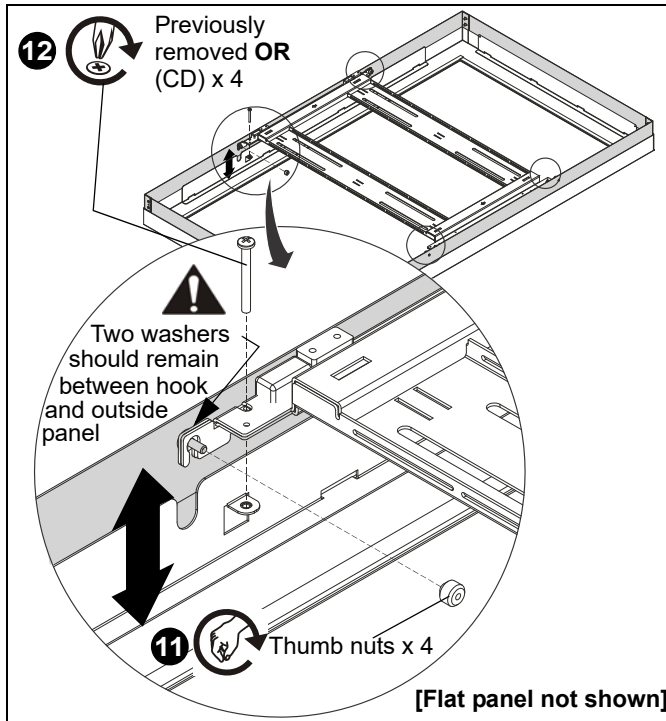

Figure 10
NOTE: The outer frame depth may be adjusted between 3" - 5" to make room for a variety of different flat panel thicknesses. (See Figure 10)
11. Tighten thumb nuts over threaded studs in four locations on the hinged frame. (See Figure 10)
12. Replace and fasten four Phillips screws which were removed in Step 1, **OR** replace the removed screws with four 10-24 x 2-3/4" Phillips head screws (CD) to allow for a larger depth adjustment of the outer frame. (See Figure 10)